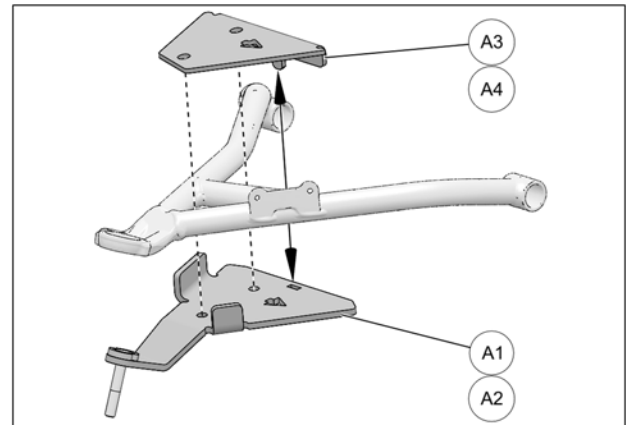

Fig. 15
5. Position bottom part of anchor bracket (A1-A2) under lower suspension arm. Position top part (A3-A4) over suspension arm and insert tenon in mortise cut in bottom part. Fig. 15